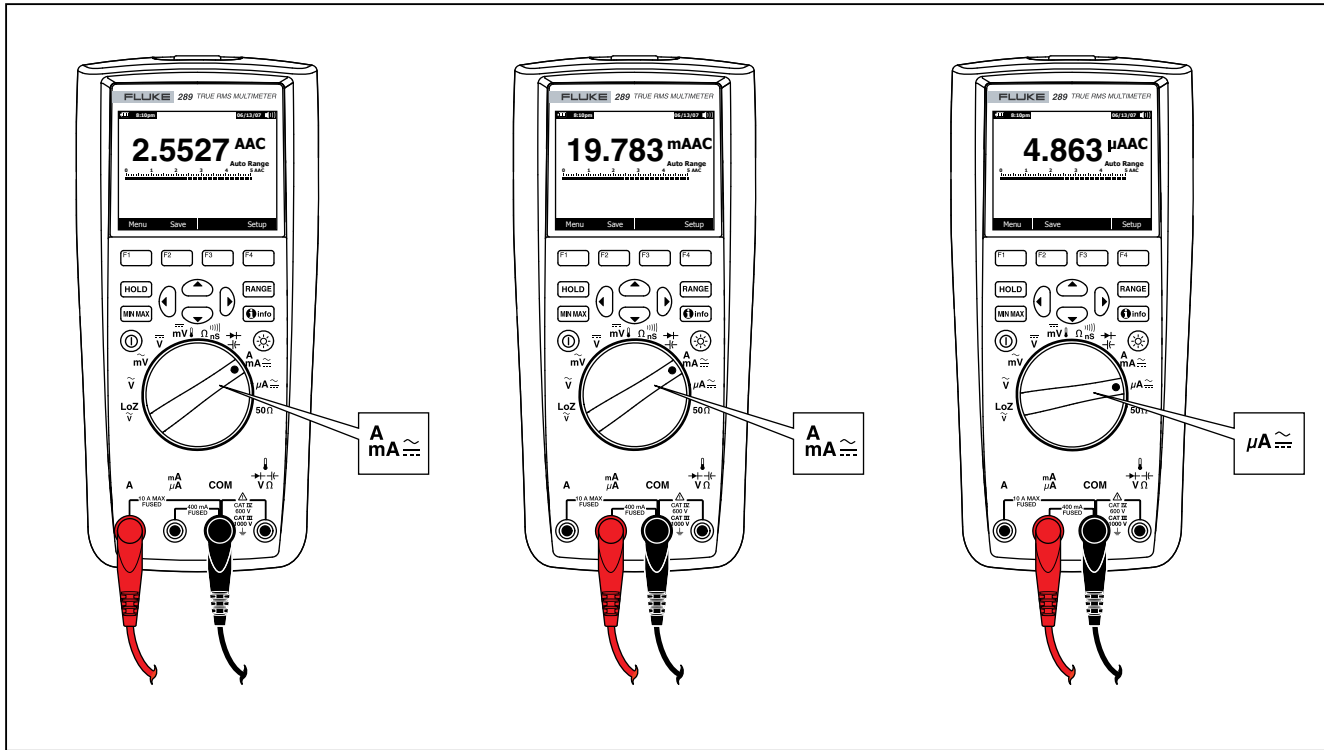

Figure 21. Current Measurement Setup
3. If you are using the A terminal, set the rotary switch to $\overset{\text{A}}{\text{mA}} \approx$. If you are using the mA/μA terminal, set the rotary switch to $\mu\text{A} \approx$ for currents below 5000 μA (5 mA), or $\overset{\text{A}}{\text{mA}} \approx$ for currents above 5000 μA. See Figure 21 for test lead connections and function selection. Refer to the "Input Alert Feature" section for information on the alerts the Meter uses when leads are not used correctly for current measurements.